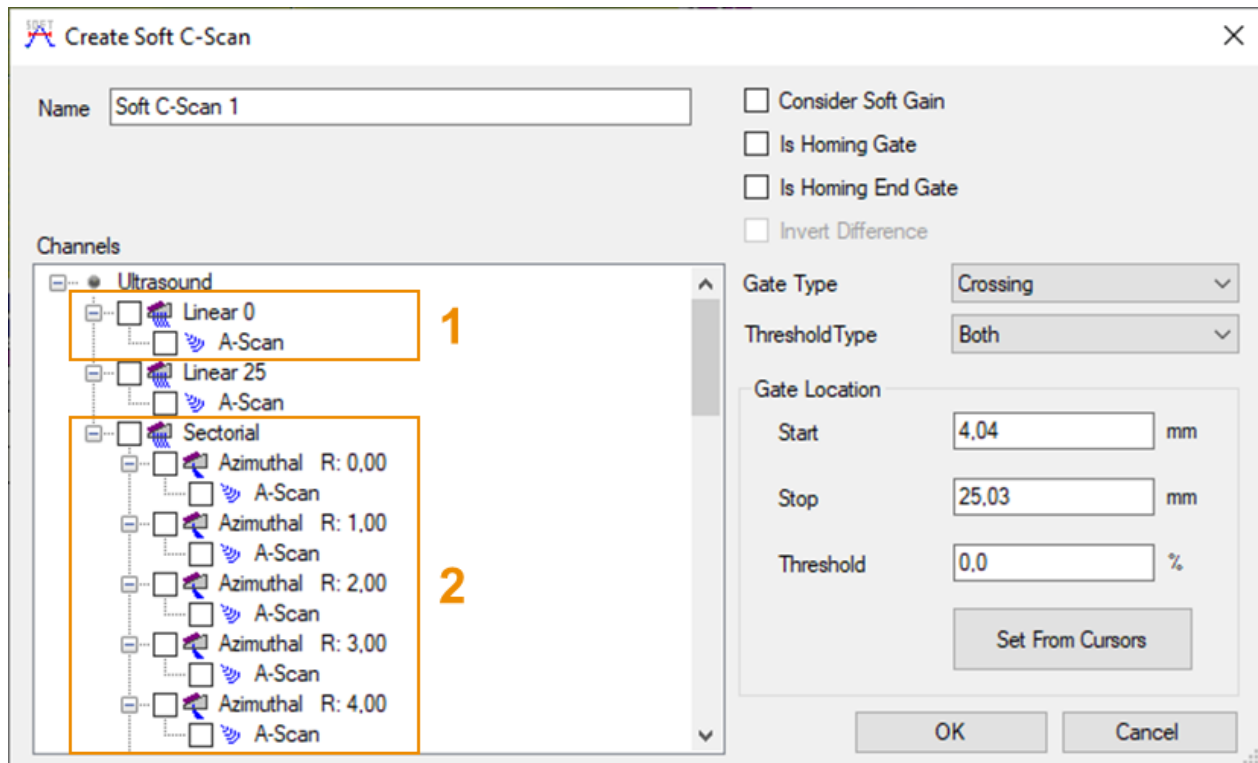

Figure 39: Creating soft C-Scans in separate instances for channels with different configurations
- Figure 39 provides an example where the user intends to create Soft C-Scans for Linear 0 channel (which is phased array linear sweep) and for Sectorial channel (multiple independent focal laws). In this case, it is required to create the Soft C-Scan for Linear 0 channel by entering its parameters and then pressing OK. Once created, the user should return to the Soft C-Scan... menu to create the Soft C-Scan for the Sectorial channel